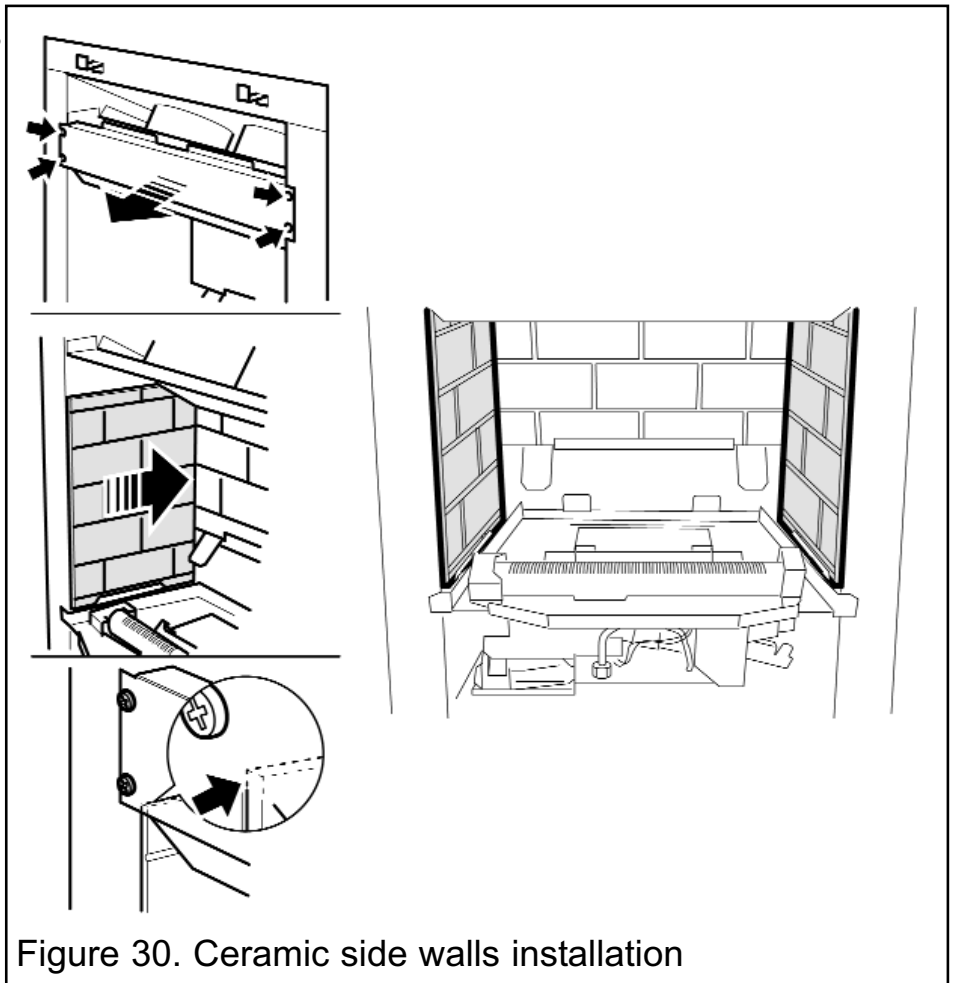

Figure 30. Ceramic side walls installation
2. Remove four screws from the spillage plate sides (See figure 30).
The bottom edges of the walls should rest in the ledges at the sides of the firebox. Slide them in from the front and ensure that they touch the rear wall. The friction between the side walls and the rear wall should hold the side walls in position (See figure 30)